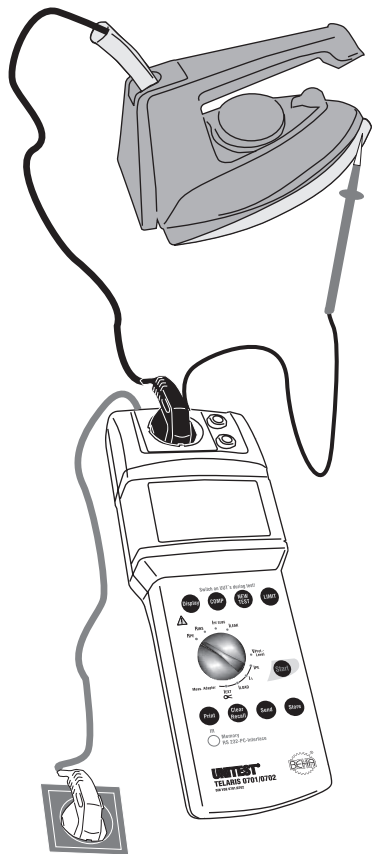

Figure 6.1: Measurement of the PE resistance
- ▶ Connect the UNITEST TELARIS 0701/0702 via the mains plug (1) to a functional and correct wired and grounded mains socket.
- ▶ Turn the 'Measurement function' selection switch (15) to position 'RPE'.
- ▶ Set the limit for the PE resistance using the key "LIMIT" (7).
- ▶ Plug the UUT mains plug into the test socket (3).
- ▶ Connect the PE test connector 'Probe' (2) to touchable, conductive appliance parts of the UUT, in compliance with Figure 6.1. Ensure a good contact with the surface of the casing parts.
- ▶ Press the key "Start" (9). The unit symbol which is blinking on the display is an indication for the active measurement procedure.
- ▶ Read the measurement value from the LC display (6). If the limit value display is active, the symbol 'LIMIT' (21) indicates that the limit value has been exceeded.
- ☞ The appliances displays the AC resistance of the PE resistance. The key "Display" (17) is used to subsequently display the measurement values for the positive and negative test current during the measurement (display symbol $\Omega+$ and $\Omega-$).
- ☞ The measurement results can be saved by pressing the key "Store" (10). For any references regarding saving of measurement values, please refer to sections 7.1 and 7.2.